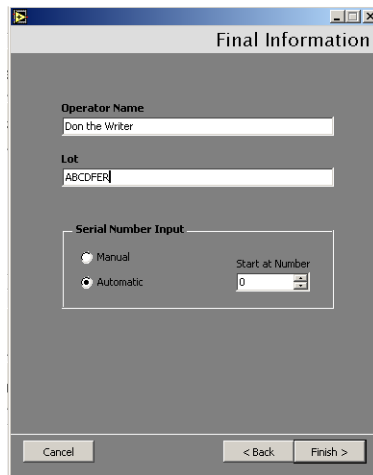

Figure 2-16 Final Information
16. Click **Next** and Figure 2-16 appears.